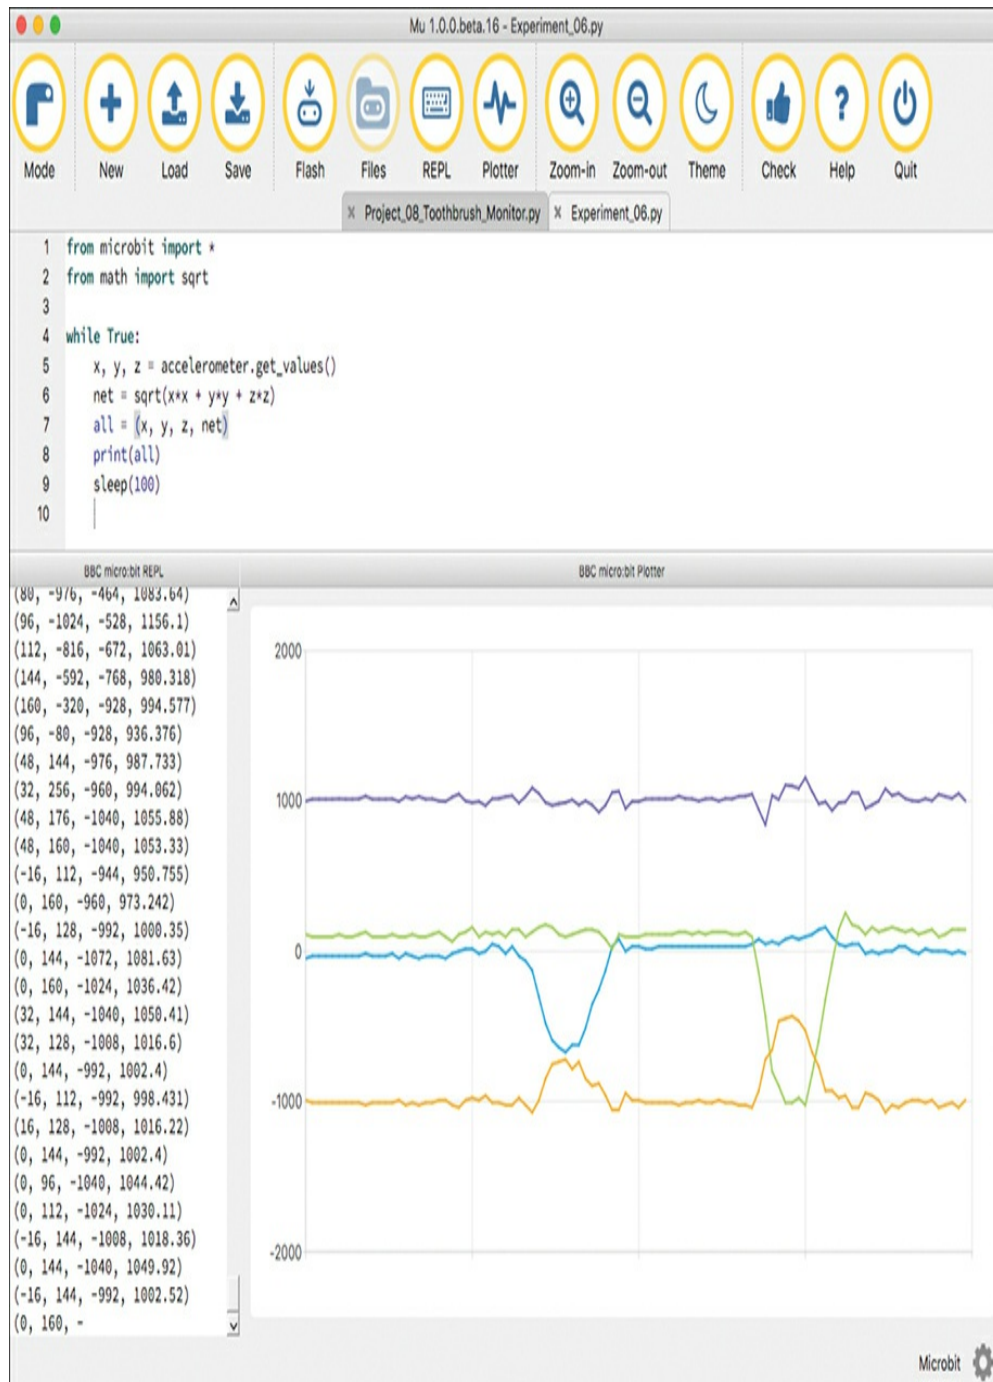

Figure 5-4: Plotting accelerometer data using Mu
2. Click the **Plotter icon** in the Mu toolbar to open Mu's Plotter, shown in Figure 5-4. If you want to see the raw data that Mu is using to create graphs, click the **REPL** button.
As you can see in Figure 5-4, there are four plots, each drawn in a different color. There is one plot for each dimension (blue for X, green